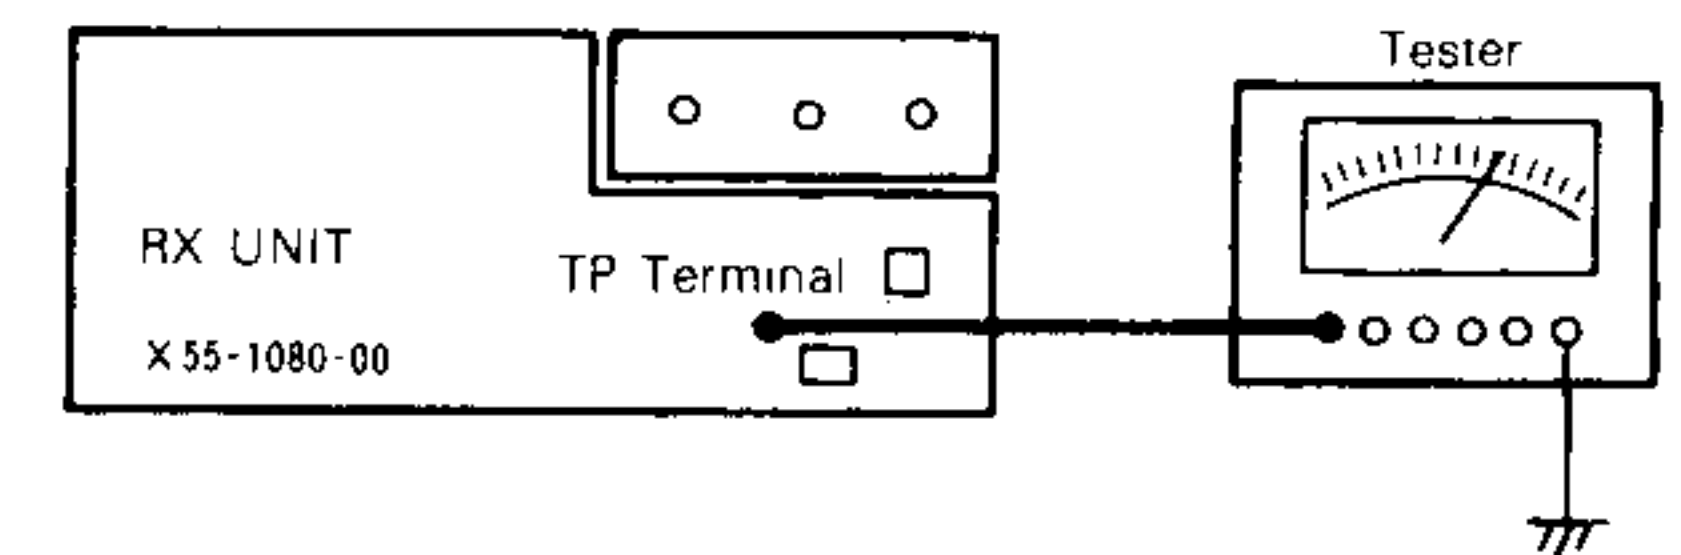

FIG. 17 NB ADJUSTMENT
- (1) Connect a voltmeter (or tester) to the TP terminal on the RX unit (Fig. 17). Set the SSG input to 20 ~ 30dB and then adjust L17 and L18 for minimum reading on the voltmeter. During the adjustment, the AF waveform should be about 1,000Hz.
- (2) Connect the noise generator to the ANT terminal and fine adjust L17 until the noise waveform on the oscilloscope becomes minimum.